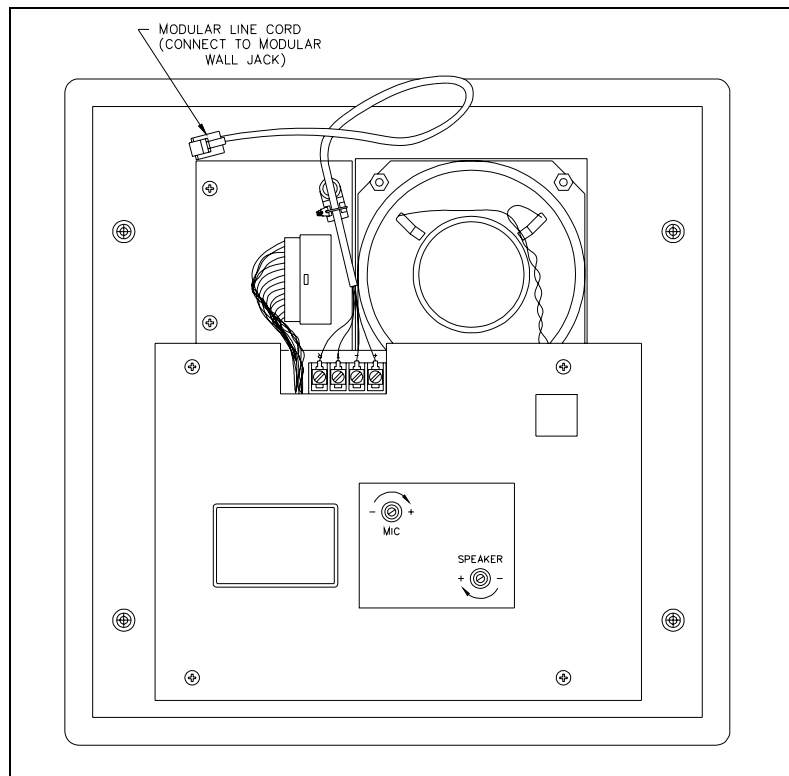

Figure 5. Microphone and Speaker Adjustments
3. See Figure 5. While they are reading, locate the **MIC** adjustment on the rear of the unit, and turn it counterclockwise until it is all the way down.